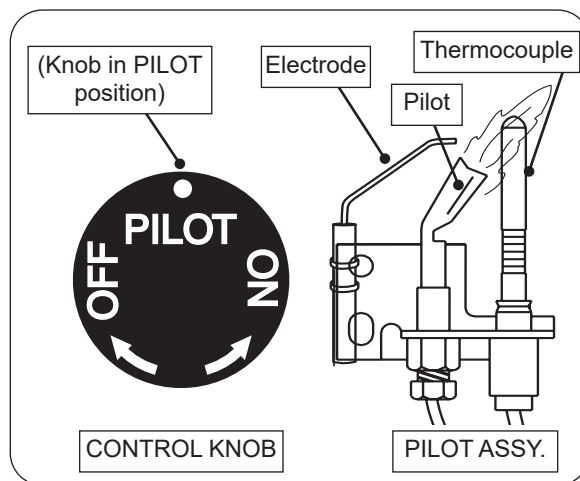

Fig. 44-1 Pilot lighting
3. Locate the pilot assembly on the side or rear of the burner pan (see Fig. 44-1).
4. Turn the control knob counterclockwise to **PILOT**. Push the knob **firmly and fully** in and hold. Push the piezo igniter button several times until the pilot lights. Continue to hold the knob in for about one (1) minute after the pilot is lit. Release the knob and it will pop back out. The pilot will remain lit. See Fig. 44-1. If it goes out, repeat steps 2-4.